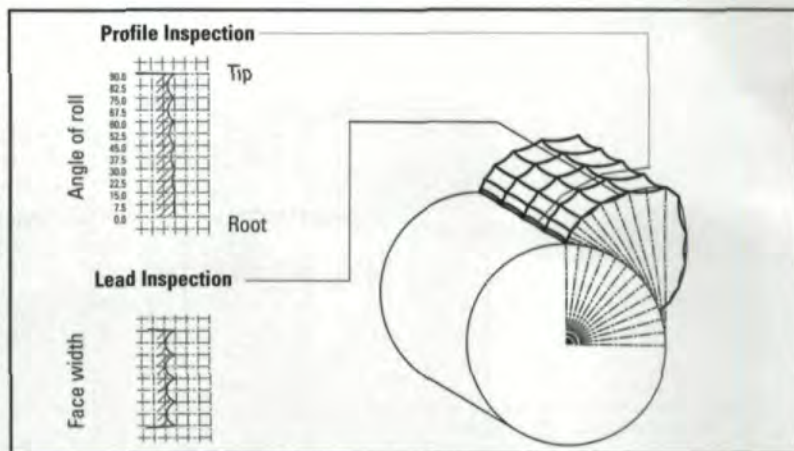

Fig. 2—Hob feed and enveloping marks.
Often, process engineers specify a post-hobbing gear finishing operation (shaving, for example) not necessarily because the gear's geometric quality and surface finish requirements are unachievable by the hobbing process, but rather because it is *difficult* to consistently achieve the desired quality. In statistical terms, the hobbing process has not been generally regarded as capable of producing AGMA quality 9 or higher (the process is considered capable when the process capability factor, $C_p = \text{Tolerance}/(6\text{Sigma})$, is greater than one). Another reason for specifying a post-hobbing gear finishing operation was the generative nature of the hobbing process, which creates a distinct tooth topology resulting from hob feed and enveloping marks (Fig. 2). A third reason for specifying a post-hobbing gear finishing operation was the possibility of productivity improvements during the rough hobbing. As compared to finish hobbing, the rough hobbing cycle times are usually much shorter since multi-start hobs and higher feed rates can be applied.
- **Cutting conditions factor.** In case of a spur or a small helix angle gear, the tooth profile is not affected by the feed rate (Fig. 2). But in the case of gears with high helix angle, the tooth profile quality might be affected by excessive feed marks (Fig.